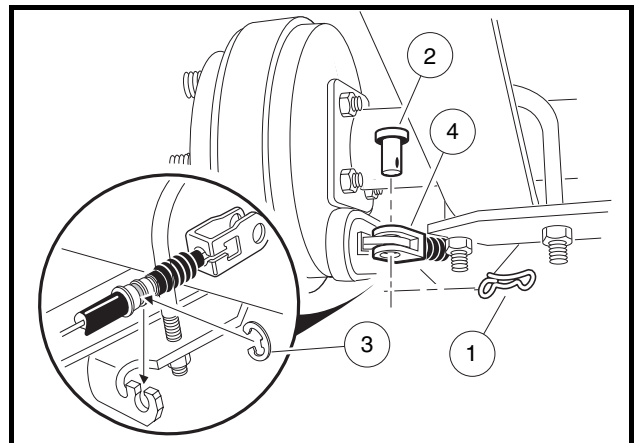

Figure 28-7 Disconnect Brakes
4. Remove the bow-tie pins (1), brake cable clevis pins (2), and cable retaining E-clips (3). Disconnect the brake cables (4) (**Figure 28-7, Page 28-5**).
8. Connect the brake cables using new bow tie pins (1) (**Figure 28-7, Page 28-5**).